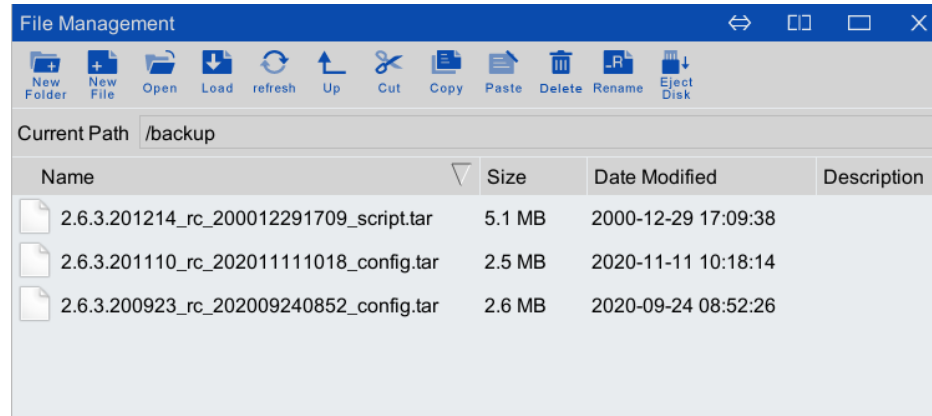

Figure 7-6 Path of file backed up
Step3.After the backup is completed, you can click on the "File > File Management > backup" option on the main interface of the teach pendant to enter the interface as shown in Figure 7-6 to view the backup files.